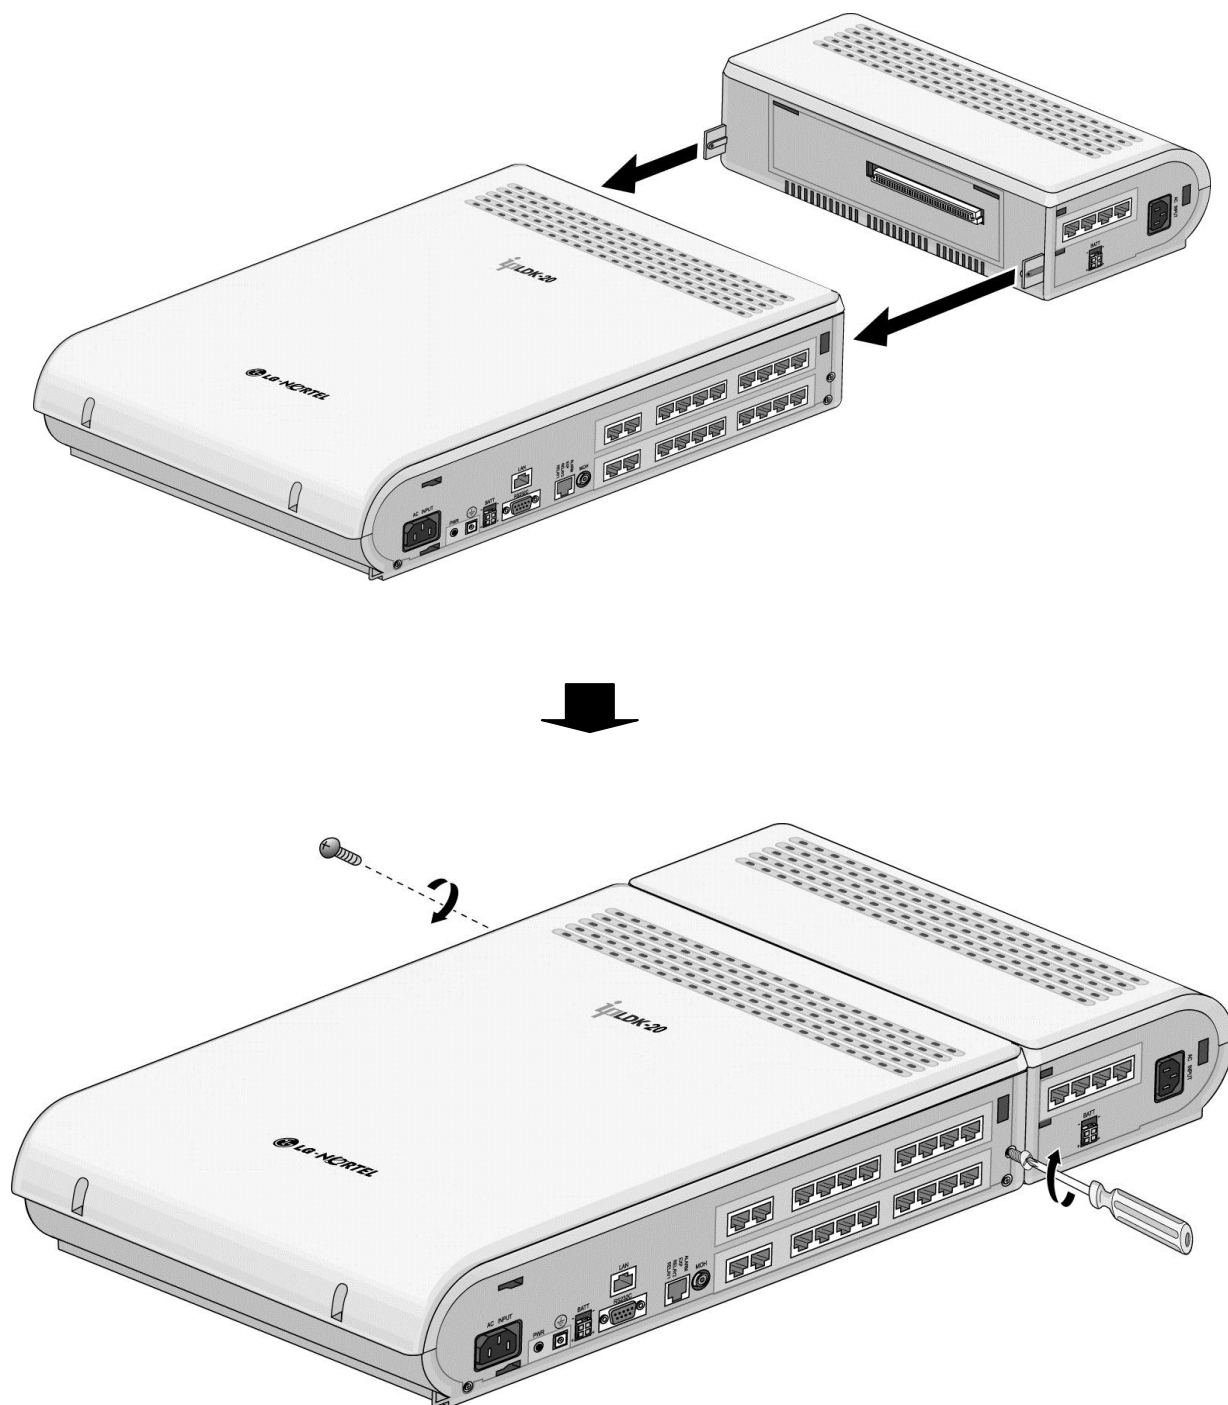

Figure 4.3.1 Connecting an expansion module
1. Insert the expansion module into the slot of basic KSU as show in Figure 4.3.1.